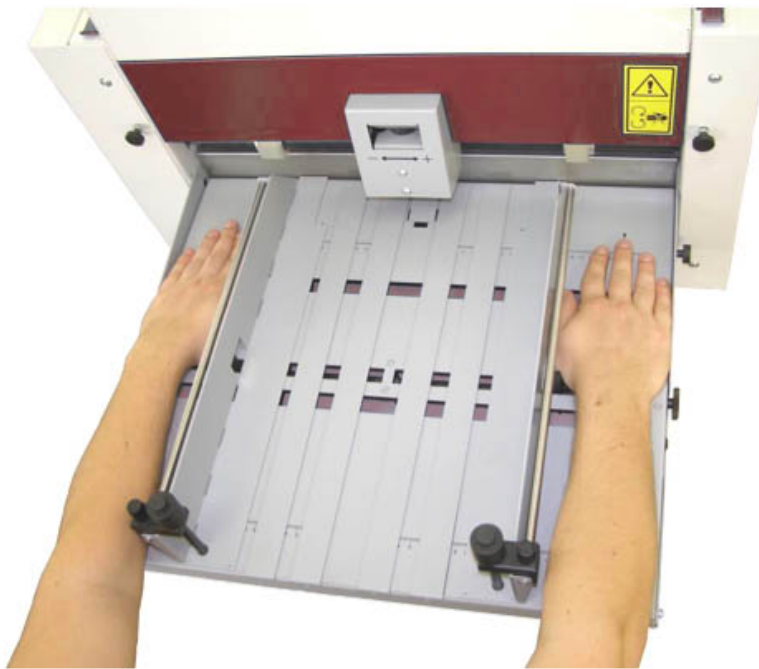

Fig. 6: Pressing the table before paper is loaded
Place the angle regulation screw (17) in to the initial position, so that the front side guides (3) are perpendicular to the tool. The initial position of the angle regulation screw (17) can be checked on the skew indicator of the front side guide (30) – the back movable part of the indicator must be vertical and aligned with the cross mark. Set the table thrust regulation screw (14) to minimum thrust. Ready the table into the lower locked position. Lock the table by pressing the right and left edge of the table simultaneously with your palms (fig. 6).